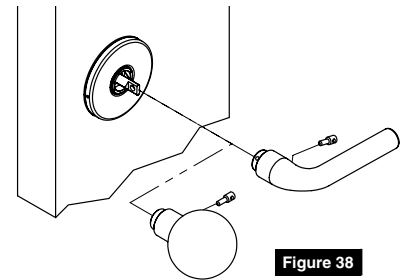

Figure 38
4. Install inside lever or knob by inserting dowel screw. (Figure 38)